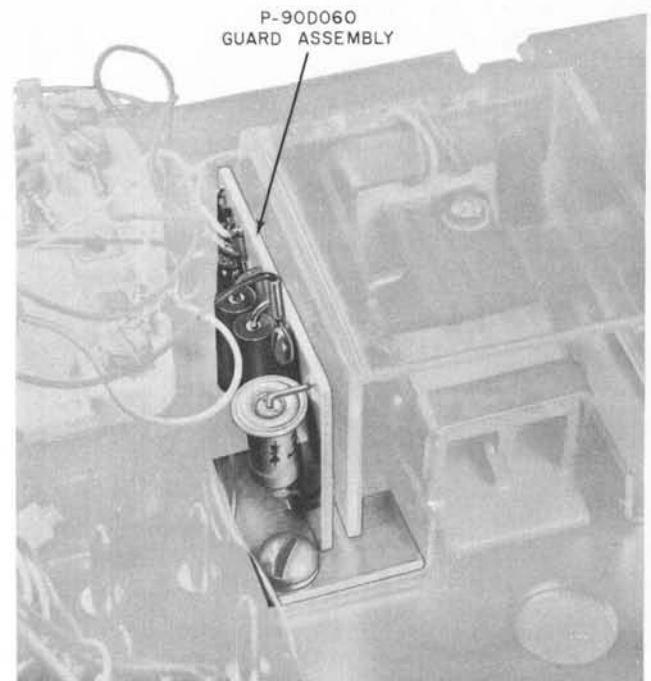

Fig. 13—P-90D060 Polarity Guard Assembly Installed
2.13 An optional polarity guard (order separately) is available for use with TOUCH-TONE equipped telephone sets. It is intended for use when specified by local instructions for end-to-end signaling installations. Refer to Fig. 13 for proper location for installing P-90D060 guard assembly on 1750-, 1751-, 1753-, 2750-, 2751-, and 2753-type telephone sets. Refer to Fig. 14 for 1752-, 2752-, and 2754-type sets.